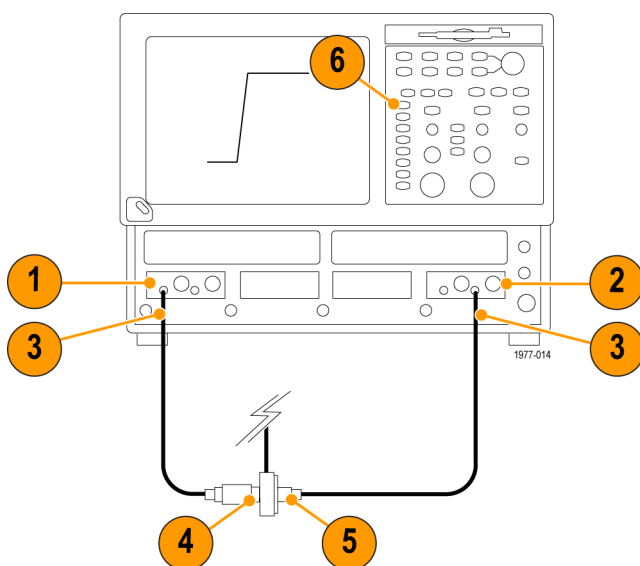

Figure 12: Test system rise time setup
1. Connect the 80E04 sampling head to Channel 1 of the sampling oscilloscope. (See Figure 12.)
11. Use the oscilloscope measurement capability to display rise time. Adjust the oscilloscope horizontal and vertical position controls to display a signal similar to that shown. (See Figure 12 on page 25.)